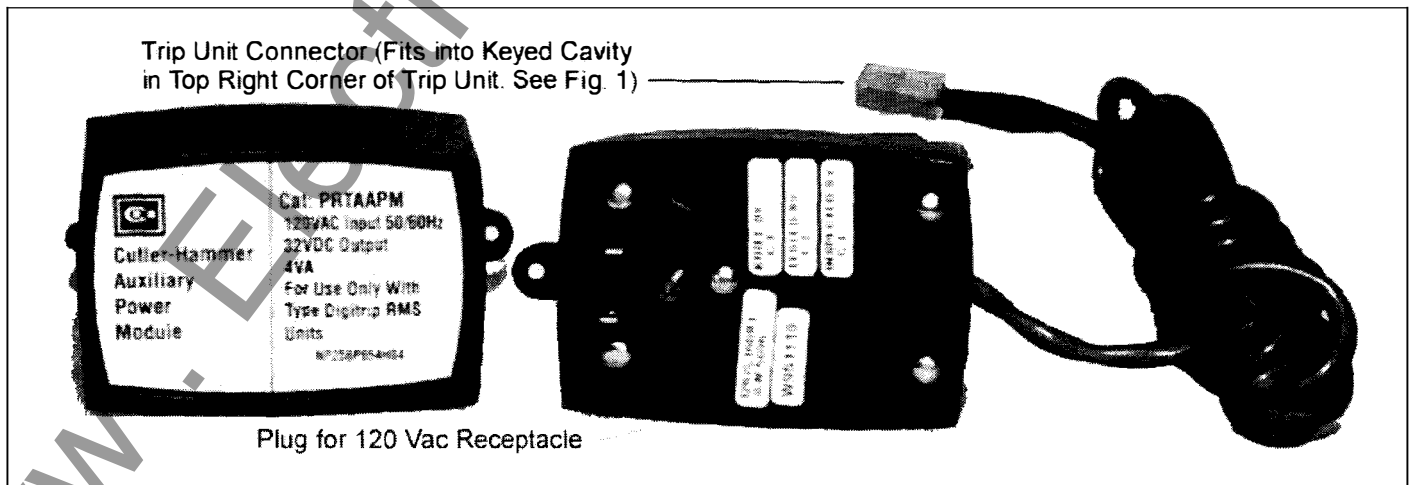

Fig. 7 Auxiliary Power Module
Since the Digitrip RMS 510 Trip Unit is completely self-powered using energy derived from the current sensors installed in the circuit breaker, all in-service tests conducted should be conducted with the auxiliary control power module, shown in Fig. 7, plugged into the trip unit. This action will avoid difficulties caused by load current levels that are too low to operate the trip unit.
- 1) **Before starting any test sequence, check the Unit Status (Green LED) in the lower right corner of the trip unit (See Figs. 1 and 5) to be sure it is blinking on and off about once each second, which indicates that the trip unit is functioning normally.** In the event the Unit Status LED is not blinking, install an Auxiliary Power Module (APM) (See Fig. 7), or if you have one already, check to see that it is connected correctly.
a) *the current is not less than 10% of the breaker frame (or current sensor) rating; be sure the “GREEN” Unit Status LED (in the lower right corner of the trip unit (See Figs. 1 and 5) is blinking on and off (indicating that there is enough current flowing to provide the power necessary to operate the trip unit). **In the event the Unit Status LED is either lighted “GREEN” or “OFF” continuously, there is NOT enough current flowing to power the trip unit; and an APM (See Fig. 7) should be installed before proceeding with the test.***
For testing the trip unit, an optional Auxiliary Power Module (Cat. No. PRTAAPM) as shown in Fig. 7 is recommended. This Auxiliary Power Module, which operates from a separate 120 Vac supply, may be used when a drawout circuit breaker is in any of its four cell positions, i.e., “Connected”, “Test”, “Disconnected” and “Withdrawn” (or “Removed.”)
Note: For Testing Purposes Only: When using an external single phase current source to test low level ground fault current settings, it is advisable to use the Auxiliary Power Module (APM) (See Fig. 7). Especially when the single phase current is low, without
The Auxiliary Power Module or APM (Cat No. PRTAAPM), illustrated in Fig. 7, is an encapsulated power supply that requires a 120 Vac input at either 50 or 60 Hz. It provides an output of 32 Vdc (nominal 40 Vdc open circuit) which can be used for testing a Digitrip RMS 510 Trip Unit.